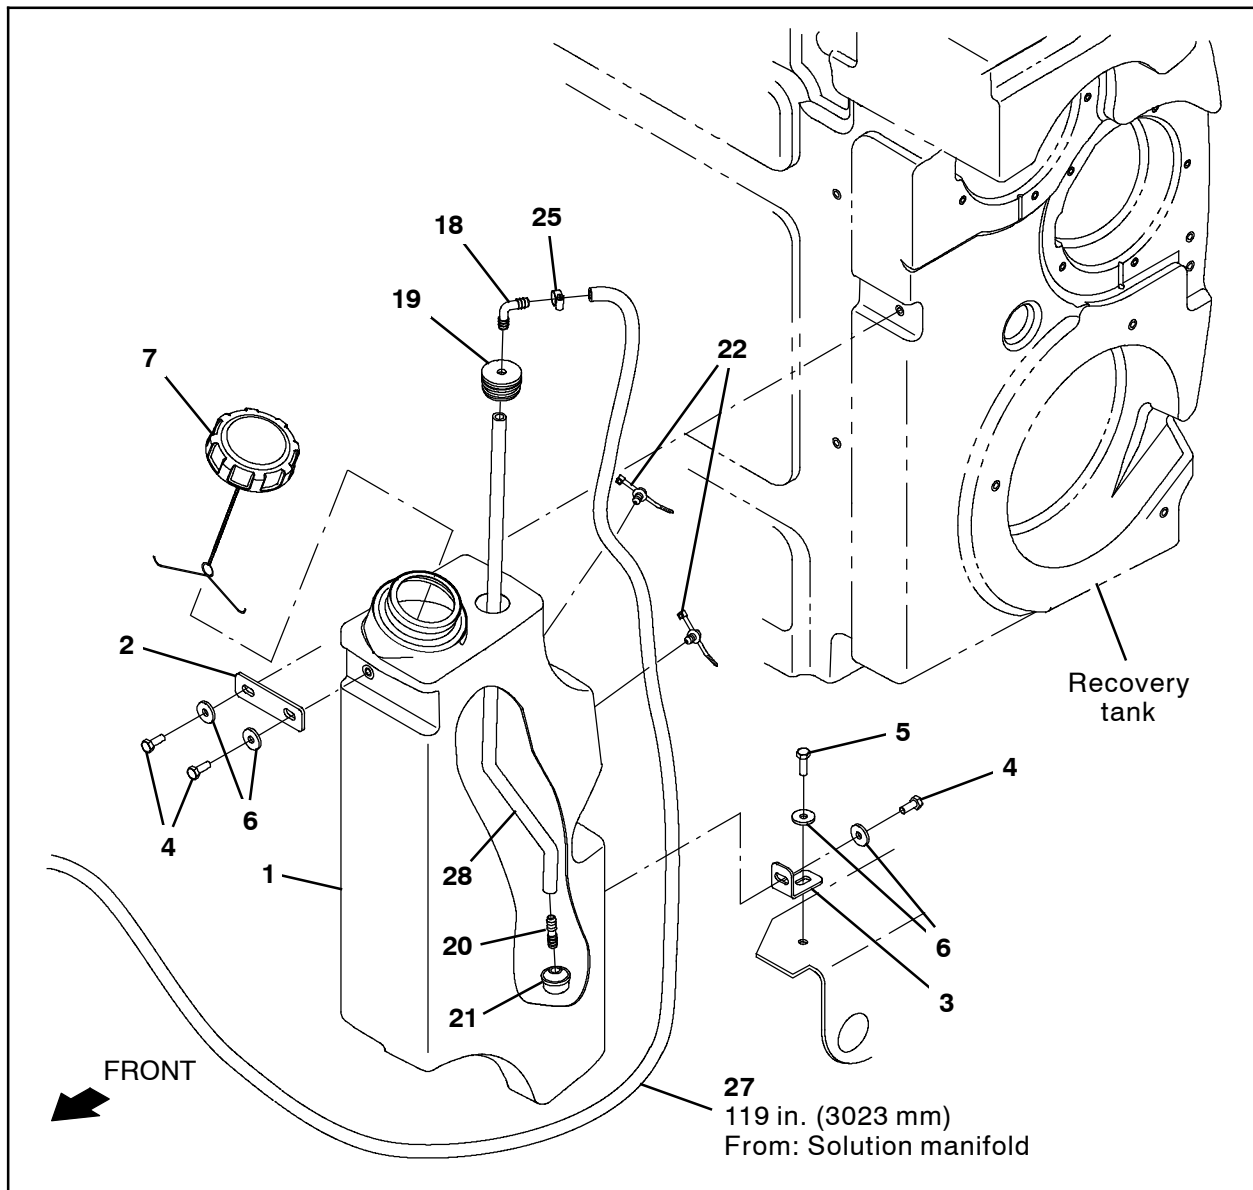

FIG. 4
9. Thread the straight fitting (20) into the pump screen (21). (Fig. 4)
10. Install the screen assembly assembled in the previous step onto the 28 in. (711 mm) PVC hose (28). (Fig. 4)
11. Install the 90° plastic fitting (18) into the grommet (19) and insert the end of the 90° plastic fitting inside the grommet into the 28 in. (711 mm) PVC hose (28). (Fig. 4)
12. Install the hose assembly assembled in the previous several steps into the detergent tank (1). (Fig. 4)
13. Use one M8 hex screw (5) and one flat washer (6) to install the detergent tank bracket (3) onto the frame of the machine. (Fig. 4)
14. Use one M8 hex screw (4) and one flat washer (6) to install the detergent (1) onto the detergent tank bracket (3). (Fig. 4)
15. Use one M8 hex screw (4) and one flat washer (6) to install the detergent tank plate (2) onto the detergent tank (1). (Fig. 4)
16. Use one M8 hex screw (4) and one flat washer (6) to secure the detergent tank plate (2) / detergent tank (1) to the recovery tank. (Fig. 4)
17. Use a hose clamp (25) to connect the 119 in. (3023 mm) PVC hose (27) to the 90° plastic fitting (18) installed on the detergent tank (1). (Fig. 4)
18. Install both wire ties (22) onto the detergent tank (1) and use the wire ties to secure the 119 in. (3023 mm) PVC hose (27) to the detergent tank. (Fig. 4)
19. Install the tank cap (7) onto the detergent tank (1). (Fig. 4)